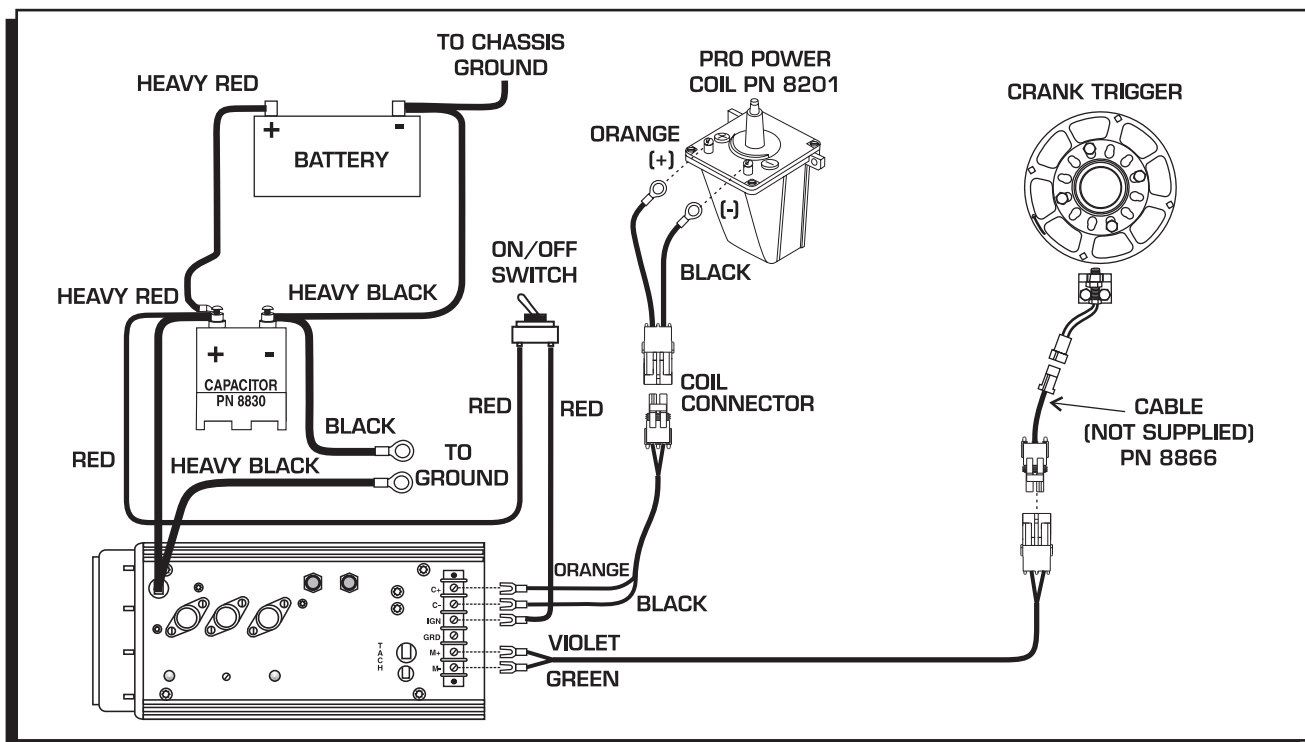

Figure 1 Wiring the MSD 8 with a Crank Trigger.
- Correct grounding is important to the ignition system performance. Follow the example in Figure 1 with the Capacitor Filter.